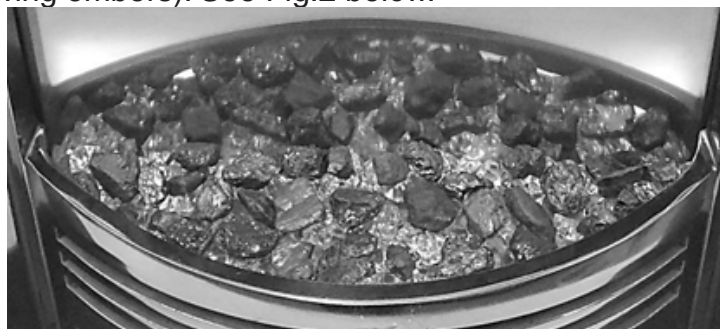

Fig. 2
2. Add coal or pebbles on top of the crystals. Allow for spaces in between coal/pebbles, for the acrylic crystals (glowing embers). See Fig.2 below.